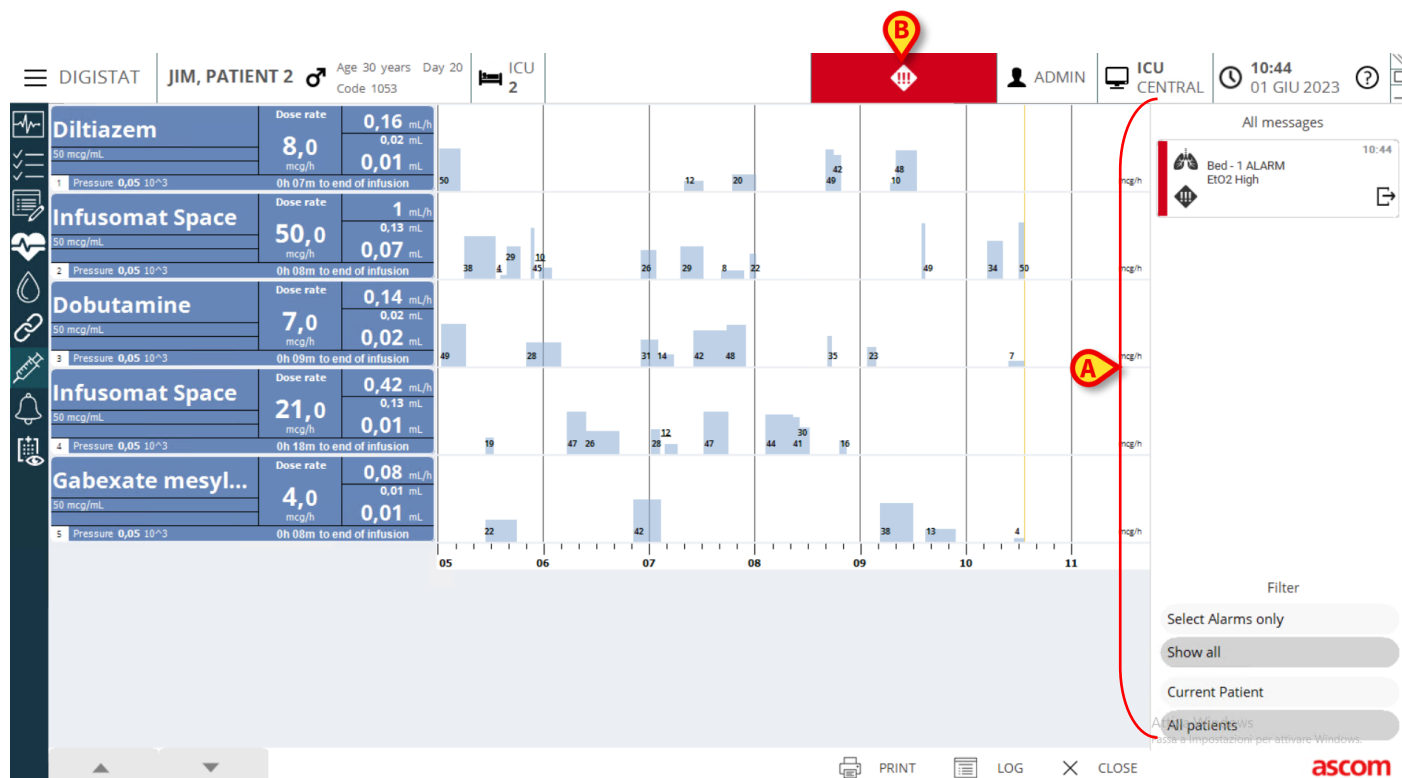
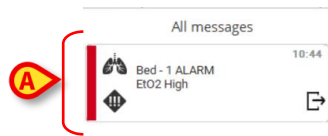

Fig 7
Fig 8
A notification area is displayed on the right of every Infusion screen and it shows the notifications sent by the connected pumps (Fig 7 A, Fig 8).
- Only visible after user click on the notification button on “Control Bar” (Fig 7 B).
The different messages are displayed in chronological order, (most recent on top - Fig 8 A) and by criticality (high priority on top, then medium, then low).
At the bottom of the area, four different filters are available, making it possible to choose the type of message to be displayed (Fig 8 **B**). The available filters are: